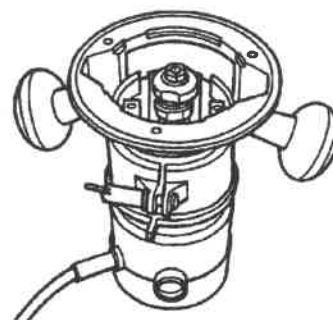

Fig. A-20
30. Remove the screws holding the composite (or plastic) base to the router base. See Fig. A-20.